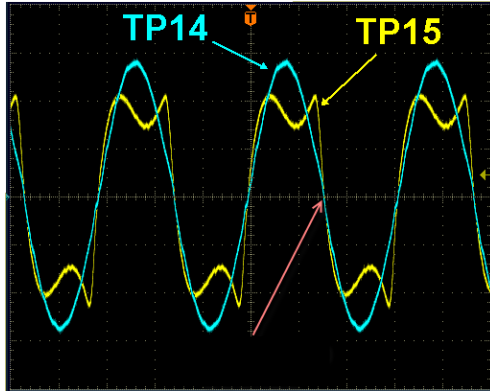

Figure 5: RF Power Module Tuning (TP14 and TP15)
- (e) Monitor TP14 and TP15 of the module's RF drive control PWB with an oscilloscope. Adjust the RF drive tuning manually, using a 10 mm nut driver, until the zero-crossing points of the TP14 and TP15 waveforms coincide (see Figure 5). The voltage at the gate lead of the FET in any PA shall be between 22 and 25 V pp.